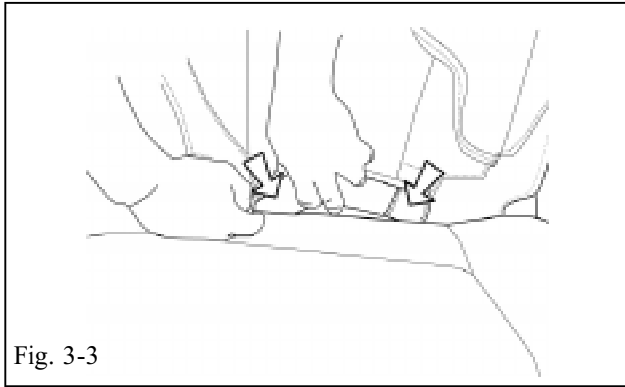

Fig. 3-3
(d) Insert the wrapped tube in between the top and bottom of the seat (Fig. 3-3.)
(1) Insert the folded tube between top and bottom seat cushions (Fig. 3-3.)
(2) Push left and right pieces of tube as far over to the outside edges of the seat as possible for a tight fitting seat cover.
(3) Push the tube in as far as possible to tighten the seat cover installation.